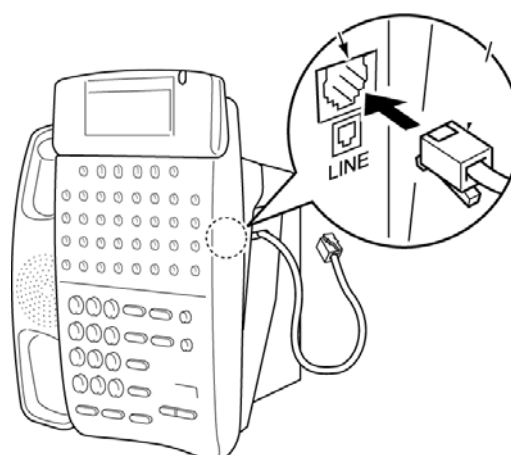

Figure 4-34: Plugging in Line Cord
5. Plug the line cord into the telephone as illustrated in *Figure 4-34: Plugging in Line Cord*.